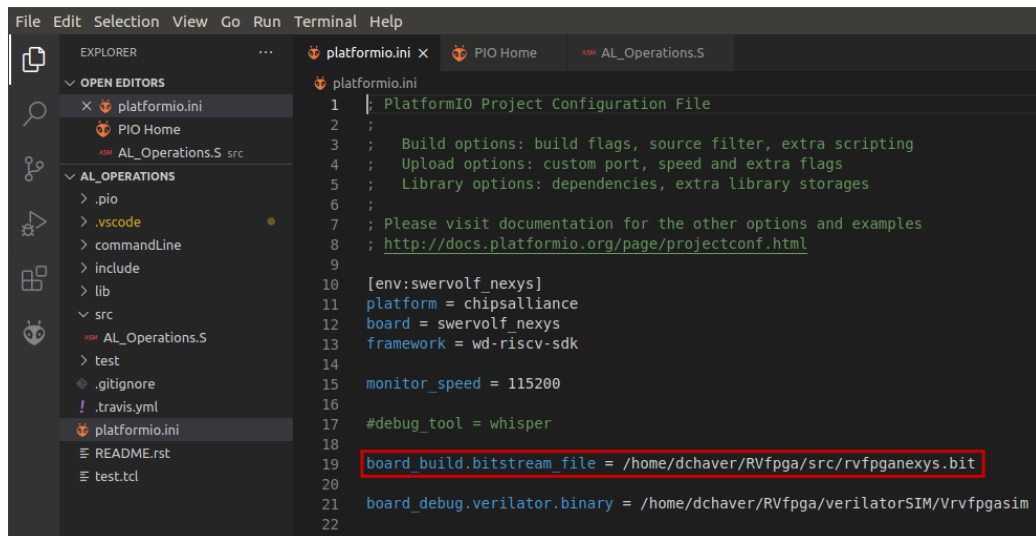

Figure 103. Platformio initialization file: platformio.ini
6. Open file *platformio.ini*, by clicking on *platformio.ini* in the left sidebar (see Figure 103). Establish the path to the RVfpgaEL2-Nexys bitstream in your system by editing the following line (see Figure 103). Note that a pre-synthesized bitstream of RVfpgaEL2-Nexys is provided at: *[RVfpgaEL2NexysVideoNODDRPath]/src/rvfpganexys.bit*